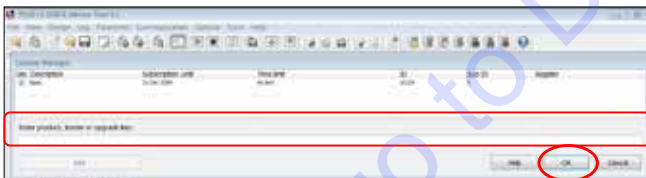

Figure 15. Entering License Key
- Input the license key obtained from Multiquip (Figure 15) and click "OK".